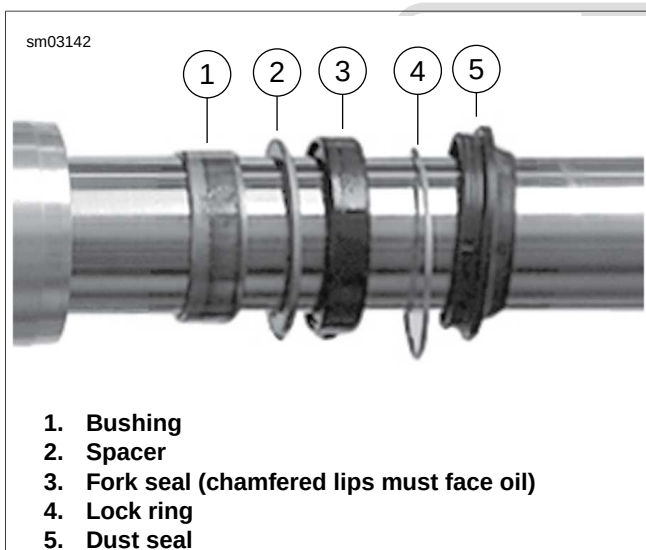

Figure 2-181. Seal Components
9. See Figure 2-181. Once fork tube and slider are separated, remove dust seal, lock ring, fork seal, spacer, bushing and chrome dust cover (not shown) from fork slider.